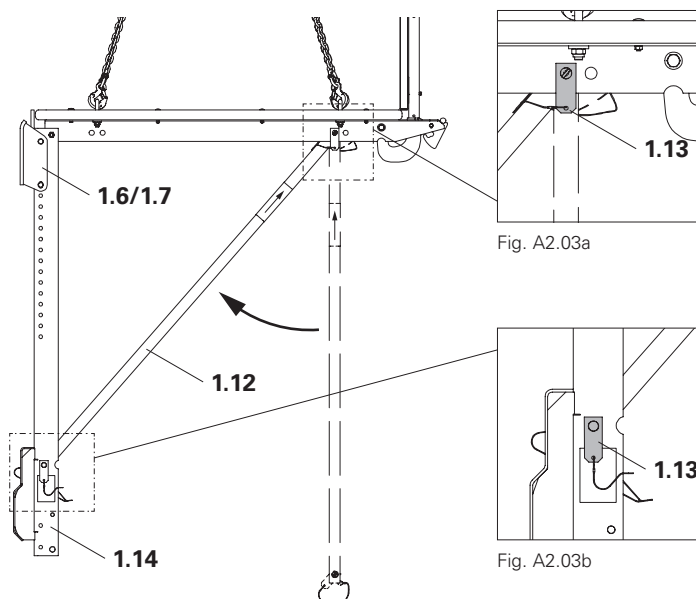

Fig. A2.03
– Take into account sticker with directional arrow on the struts. (Fig. A2.03 + A2.03a + A2.03b)